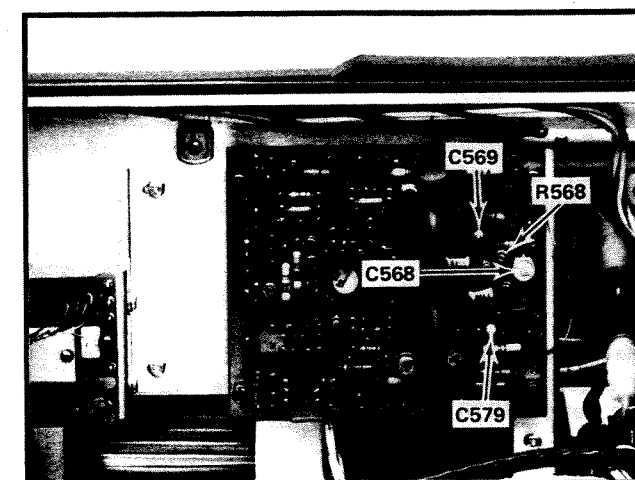

Fig. 5-20. Location of C569, C579, C568, and R568.
h. Observe the setting of adjustable capacitors C569 and C579 (see Fig. 5-20). Nominal setting for them is equal adjustment at or near minimum capacity (turned out).
n. ADJUST—C568 (see Fig. 5-20) to adjust timing to the same timing error observed at .05 μ s/div with X1 magnifier.
q. ADJUST—R568 (see Fig. 5-20) to adjust timing to the same timing error observed at .02 μ s/div with X1 magnifier.